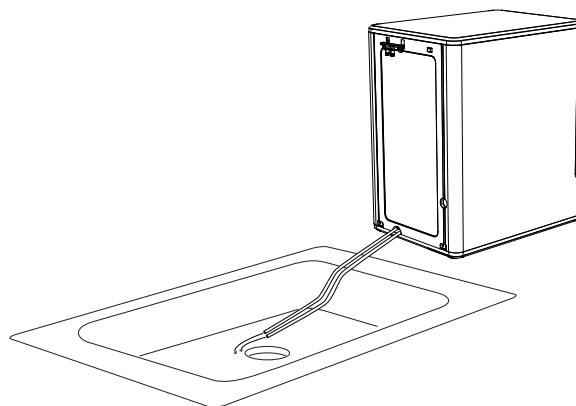

Figure 6
11. Then lay them down to drain into a sink or bucket that is below the level of the ice maker. See figure 6 and 7.